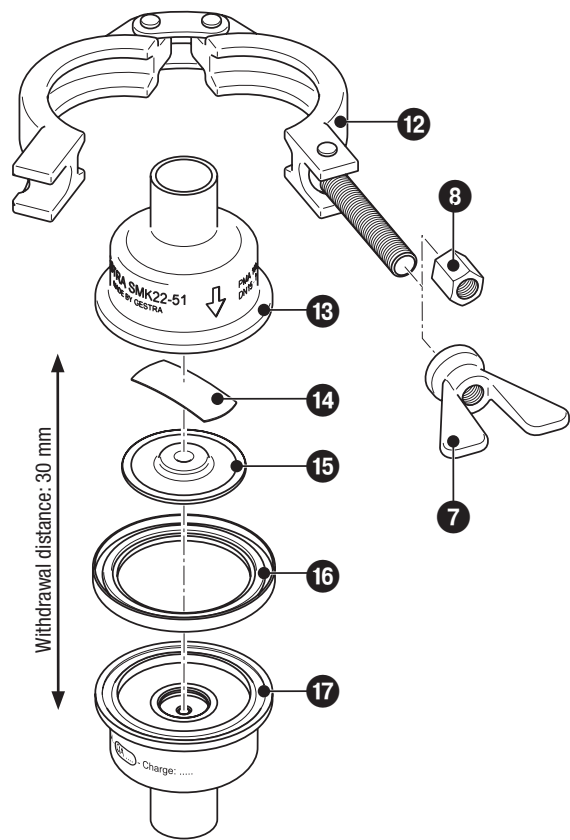
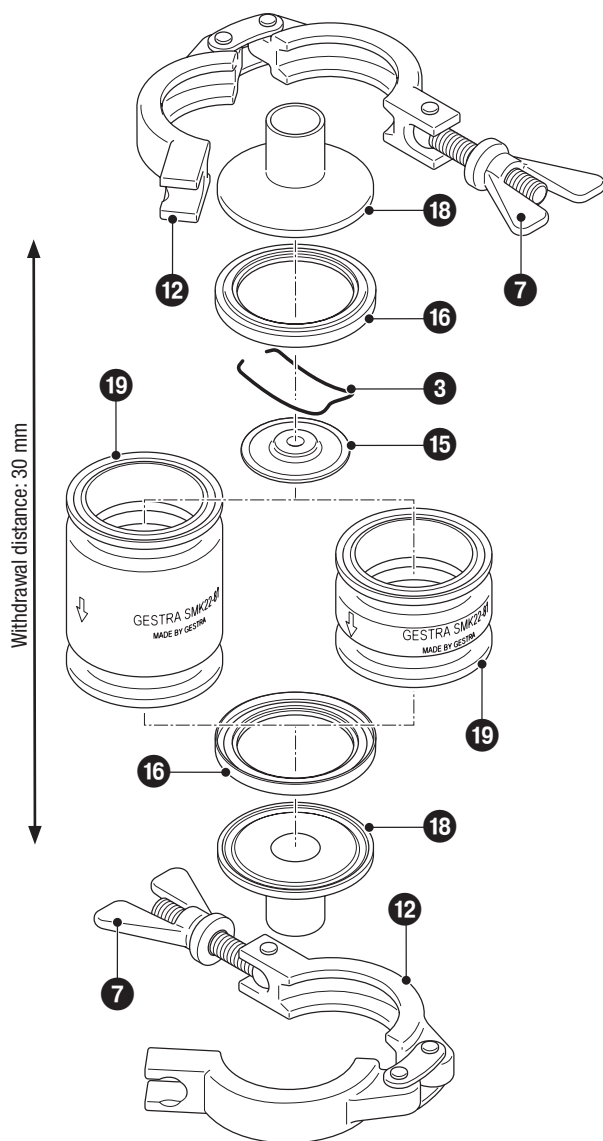

Fig. 8
Fig. 9
1. Unscrew hexagon nut **8** or wing nut **7** of joint clamp **1** / **12** and remove joint clamp. **Fig. 6, Fig. 8, Fig. 9**